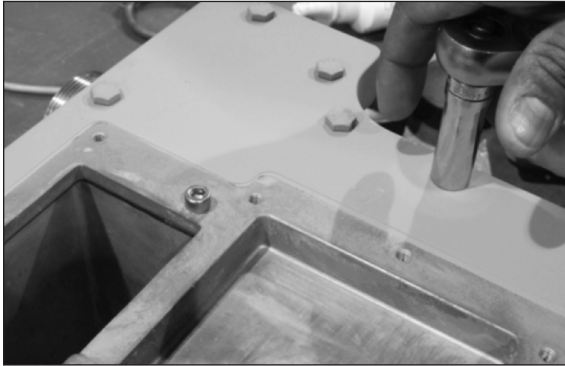

Figure 16.1 Example - Remove the 16 bolts
2. Use a ratchet with a 7/16" socket to remove the 16 bolts on the front of the meter as shown in Figure 16.1 Example.